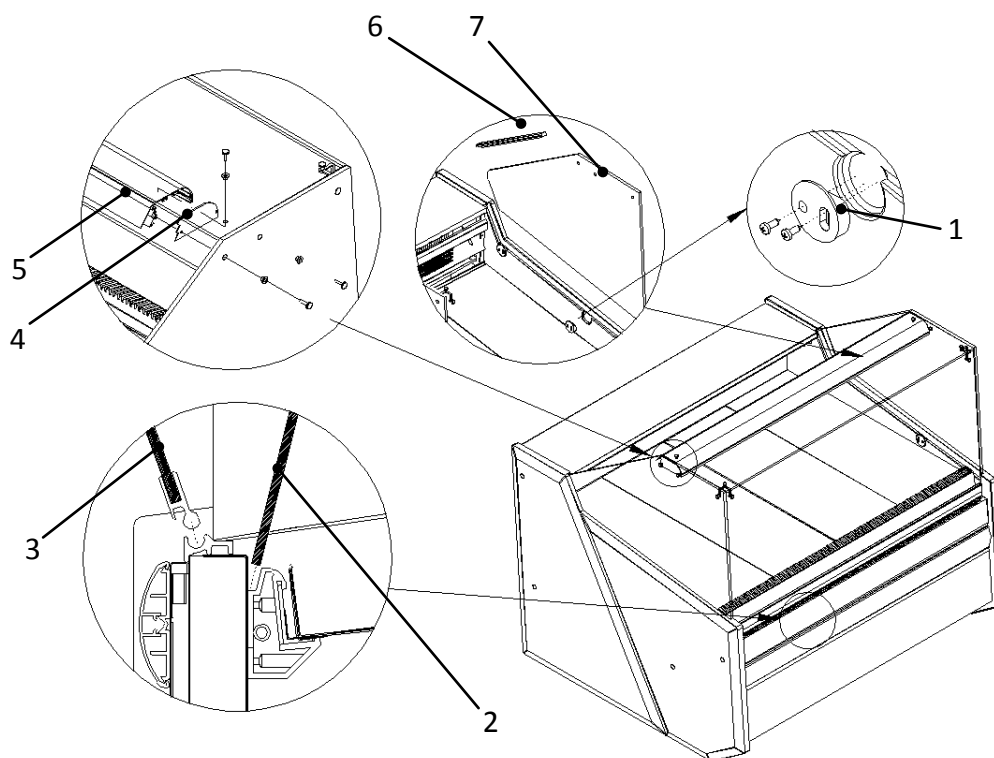

Fig. 4 Assembly of the glass elements and the aluminum lamp
| Fig. 4 Assembly of the glass elements and the aluminum lamp ... | 8 |
2. Install the glass sides Fig. 4 \(p.8\).
3. Install the aluminum lamp (along with the luminaire) on the glass sides Fig. 4 \(p.8\).